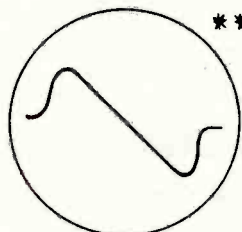
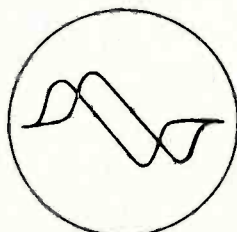

Fig. 5
Fig. 6
* Some phase shift between the Signal Generator and the scope horizontal sweep may be encountered, resulting in a double trace pattern, shown in Fig. 6. In some Oscilloscopes, provision is made for connecting this phase shift directly in the oscilloscope circuit. If so, rotate the "phase shift" control until the curves coincide as in Fig. 5. If no provision is made in the scope, the connection might be accomplished by inserting a condenser of suitable value in series with the signal generator "Synchronized Sweep Voltage" output. The condenser value will depend upon the amount of phase shift and the horizontal input impedance of the scope - approximate condenser range .01 to .1 mfd. See Fig. 7 for instrument connection diagram.